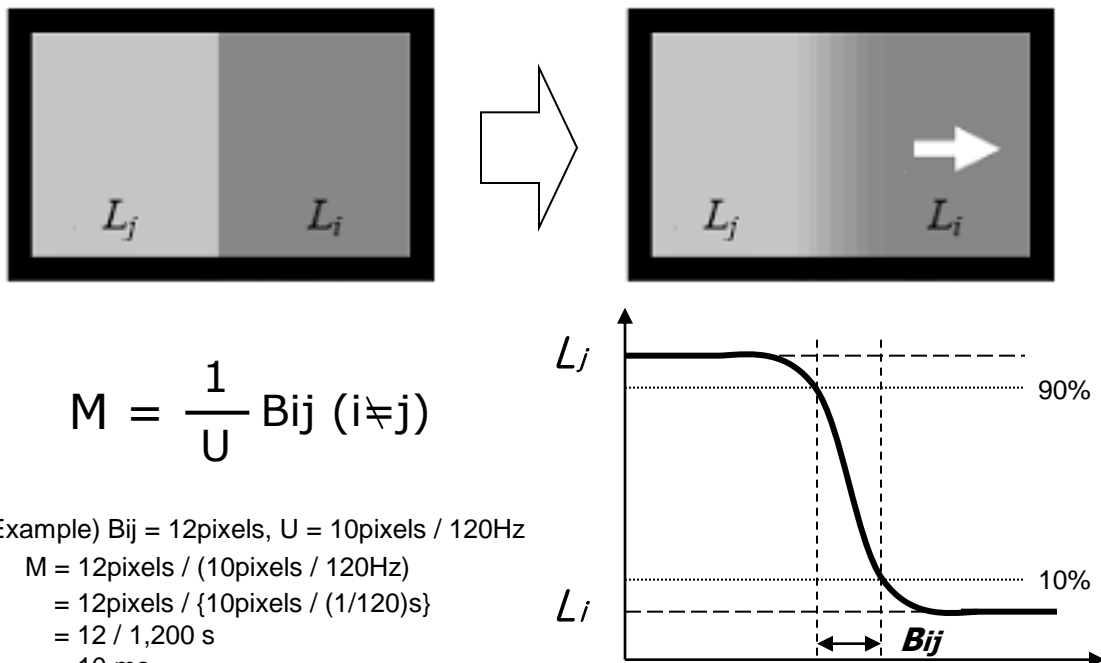

FIG. 4 MPRT
5. MPRT is defined as 10% to 90% blur-edge width  $B_{ij}$ (pixels) and scroll speed  $U$ (pixels/frame)at the moving picture. For more information, see FIG 4